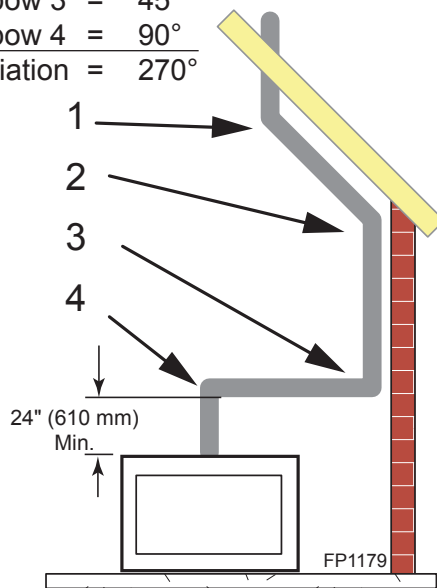

Figure 22 - Maximum Elbow Usage
- Two sets of 45° elbows offsets may be used within the vertical sections. From 0 to a maximum of 8' (2.5 m) of vent pipe can be used between elbows. *Figure 22*
- The maximum angular variation allowed in the system is 270°. *Figure 22*